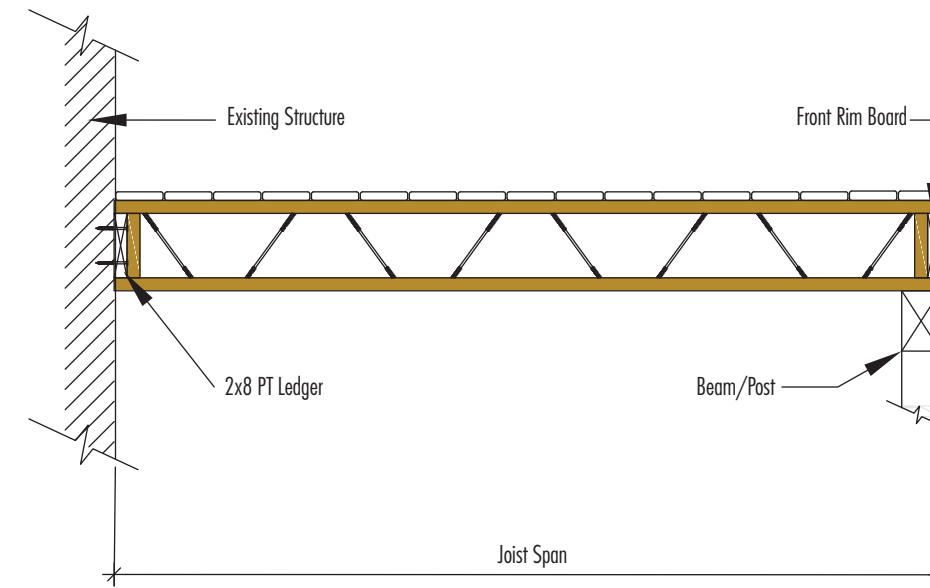

Figure 3
2. Max Joist Span refers to distance between ledger and bearing ("Joist Span" in Fig. 3)
3. Max Joist Length refers to overall joist length including cantilever up to 2' ("Joist Length" in Fig.3)